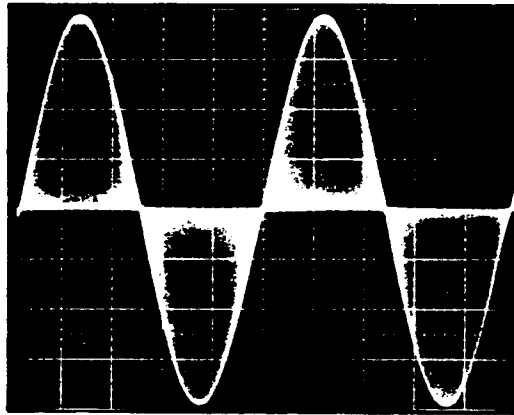

FIG. A-3: CORRECT L-R LEVEL
- (9) High-Frequency Sub-to-Main Crosstalk Null: Adjust the frequency of the oscillator to 15 kHz. Adjust the 5L4N span to 5 kHz/div. Turn the PILOT ON/OFF switch OFF. Trim C402 for minimum 30 kHz component. Trim C406 for minimum 15 kHz component. This trim will compromise the 38 kHz rejection. Adjust P407 and P411 (38 kHz phase null) for minimum 38 kHz. If the rejection is less than 50 dB (center-screen: 30 dB below pilot), choose a compromise adjustment of C406 which permits at least 50 dB rejection of both the 38 kHz and 15 kHz components.
- (10) Separation Check and Main-to-Sub Crosstalk Null: Ground the RIGHT audio input to the stereo generator, J3, and apply a 3.0 v rms 400 Hz signal from the oscillator to the LEFT input of the stereo generator, J2. Connect the COMPOSITE OUTPUT of the Optimod directly to the input of the scope through a shielded cable. DO NOT USE AN ATTENUATOR PROBE. Such probes have sufficient phase shift to compromise the accuracy of the following adjustments. Trigger the scope externally from the oscillator output, and adjust the front-panel L-R GAIN control for a maximally flat baseline (see fig. A-3). Separation may be directly measured as the ratio between the peak-to-peak baseline tilt and the peak-to-peak voltage of the entire composite output waveform. With 400 Hz, this should be unmeasurable (better than -50 dB) because noise and residual spurious output will obscure the tilt.